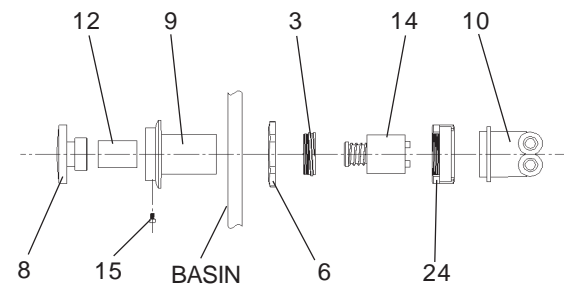

FIG. 7
7. **Check stream height from bubbler.** Stream height is factory set at 45-50 PSI. If supply pressure varies greatly from this, adjust the screw on regulator (item 14) by using a small screwdriver through the small hole in the push button (item 8)(See Figure 7, Page 4). Clockwise adjustment will raise stream height and counter-clockwise adjustment will lower stream height. For best adjustment stream height should be approximately 1" (25mm) above the bubbler guard.